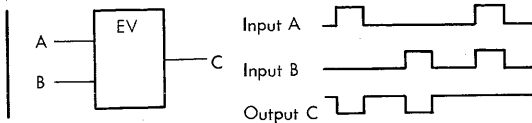

Figure 2-12. Even Count Block
The output of even count (EV) is at its indicated polarity only when an even number (such as 0, 2, 4, and 6) of inputs are at their indicated polarity (Figure 2-12).